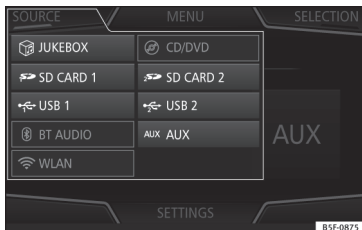

Fig. 212 MEDIA mode: change media source.
- **OR:** From the *Media* main menu, press the **SOURCE** function button » **Fig. 212** and select the desired media source.